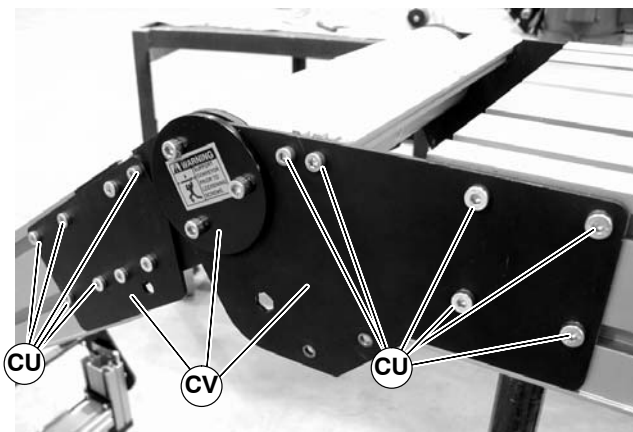

Figure 73
3. On one side of knuckle, remove screws (CU of Figure 73) and knuckle plate assembly (CV).